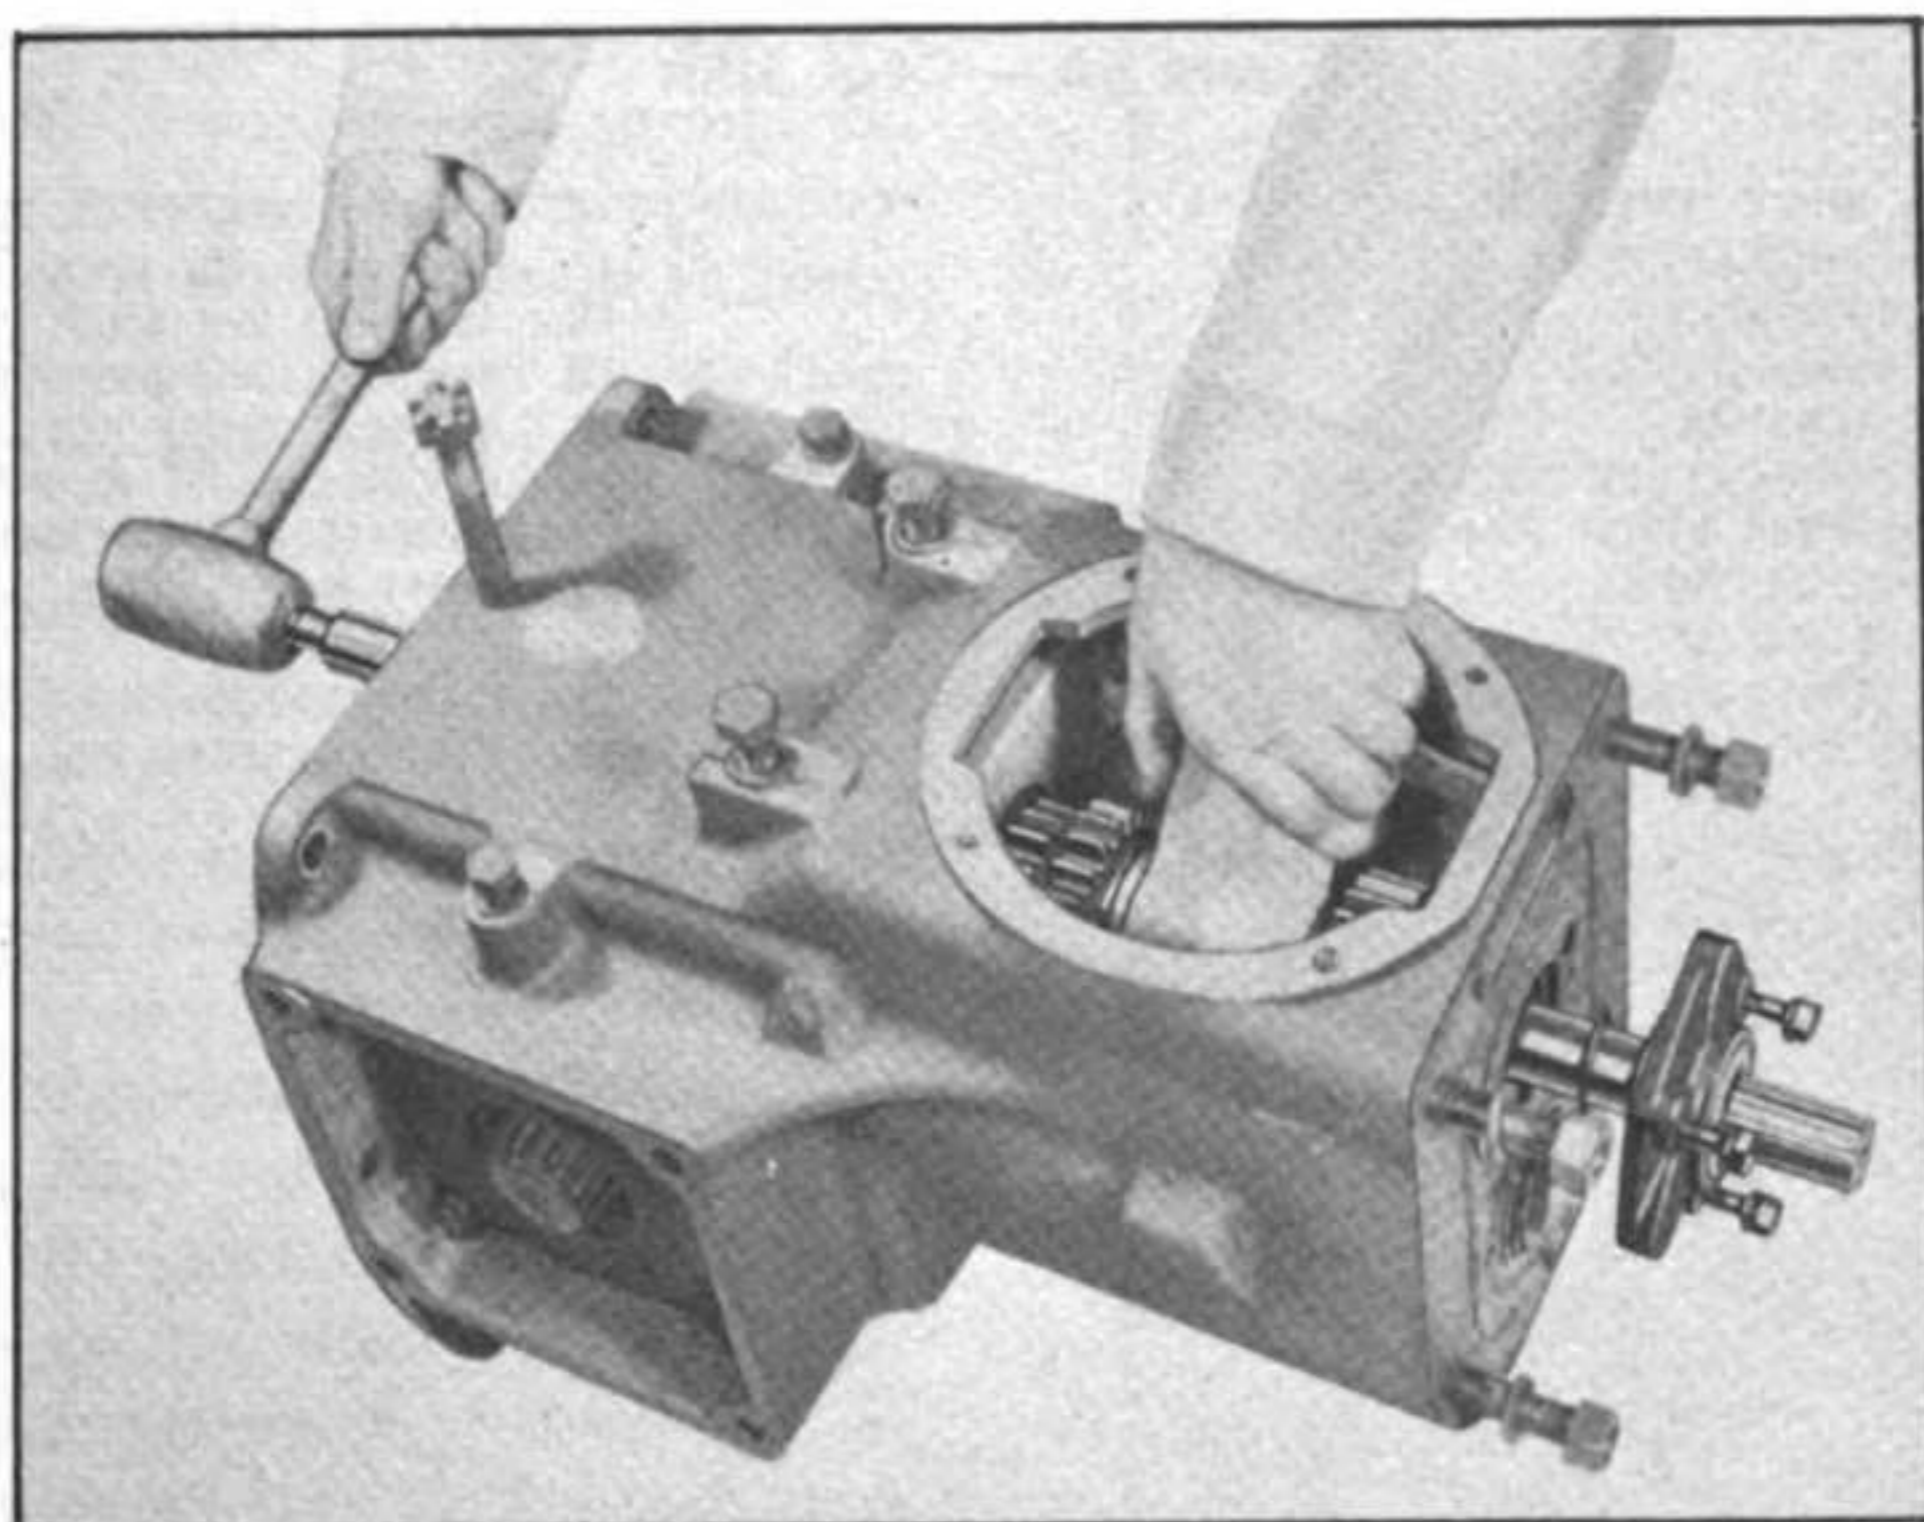

Figure 85 — Remove Drive Shaft from Transmission Case
(1) **MAIN DRIVE SHAFT:** Remove four cap screws from gear shift cover and remove cover, shifting forks, and rail assembly (Sub-Paragraph "d" below). Remove the front bearing carrier assembly from the transmission case. Spread the two sliding gears apart against the walls of the case. Place a short length of block between them and strike the rear of the shaft with a lead or rawhide mallet (Figure 85). This will remove the rear bearing cone from the shaft and the front bearing cup from the case. Slide the gears off the shaft as it is being removed from the case. The rear bearing cup will remain in the case as it is retained by a snap ring and need not be removed unless damaged or transmission case is to be replaced. Note the position of the gears on the shaft and the direction of the chamfered surface of the teeth before disassembling to enable correct reassembly.